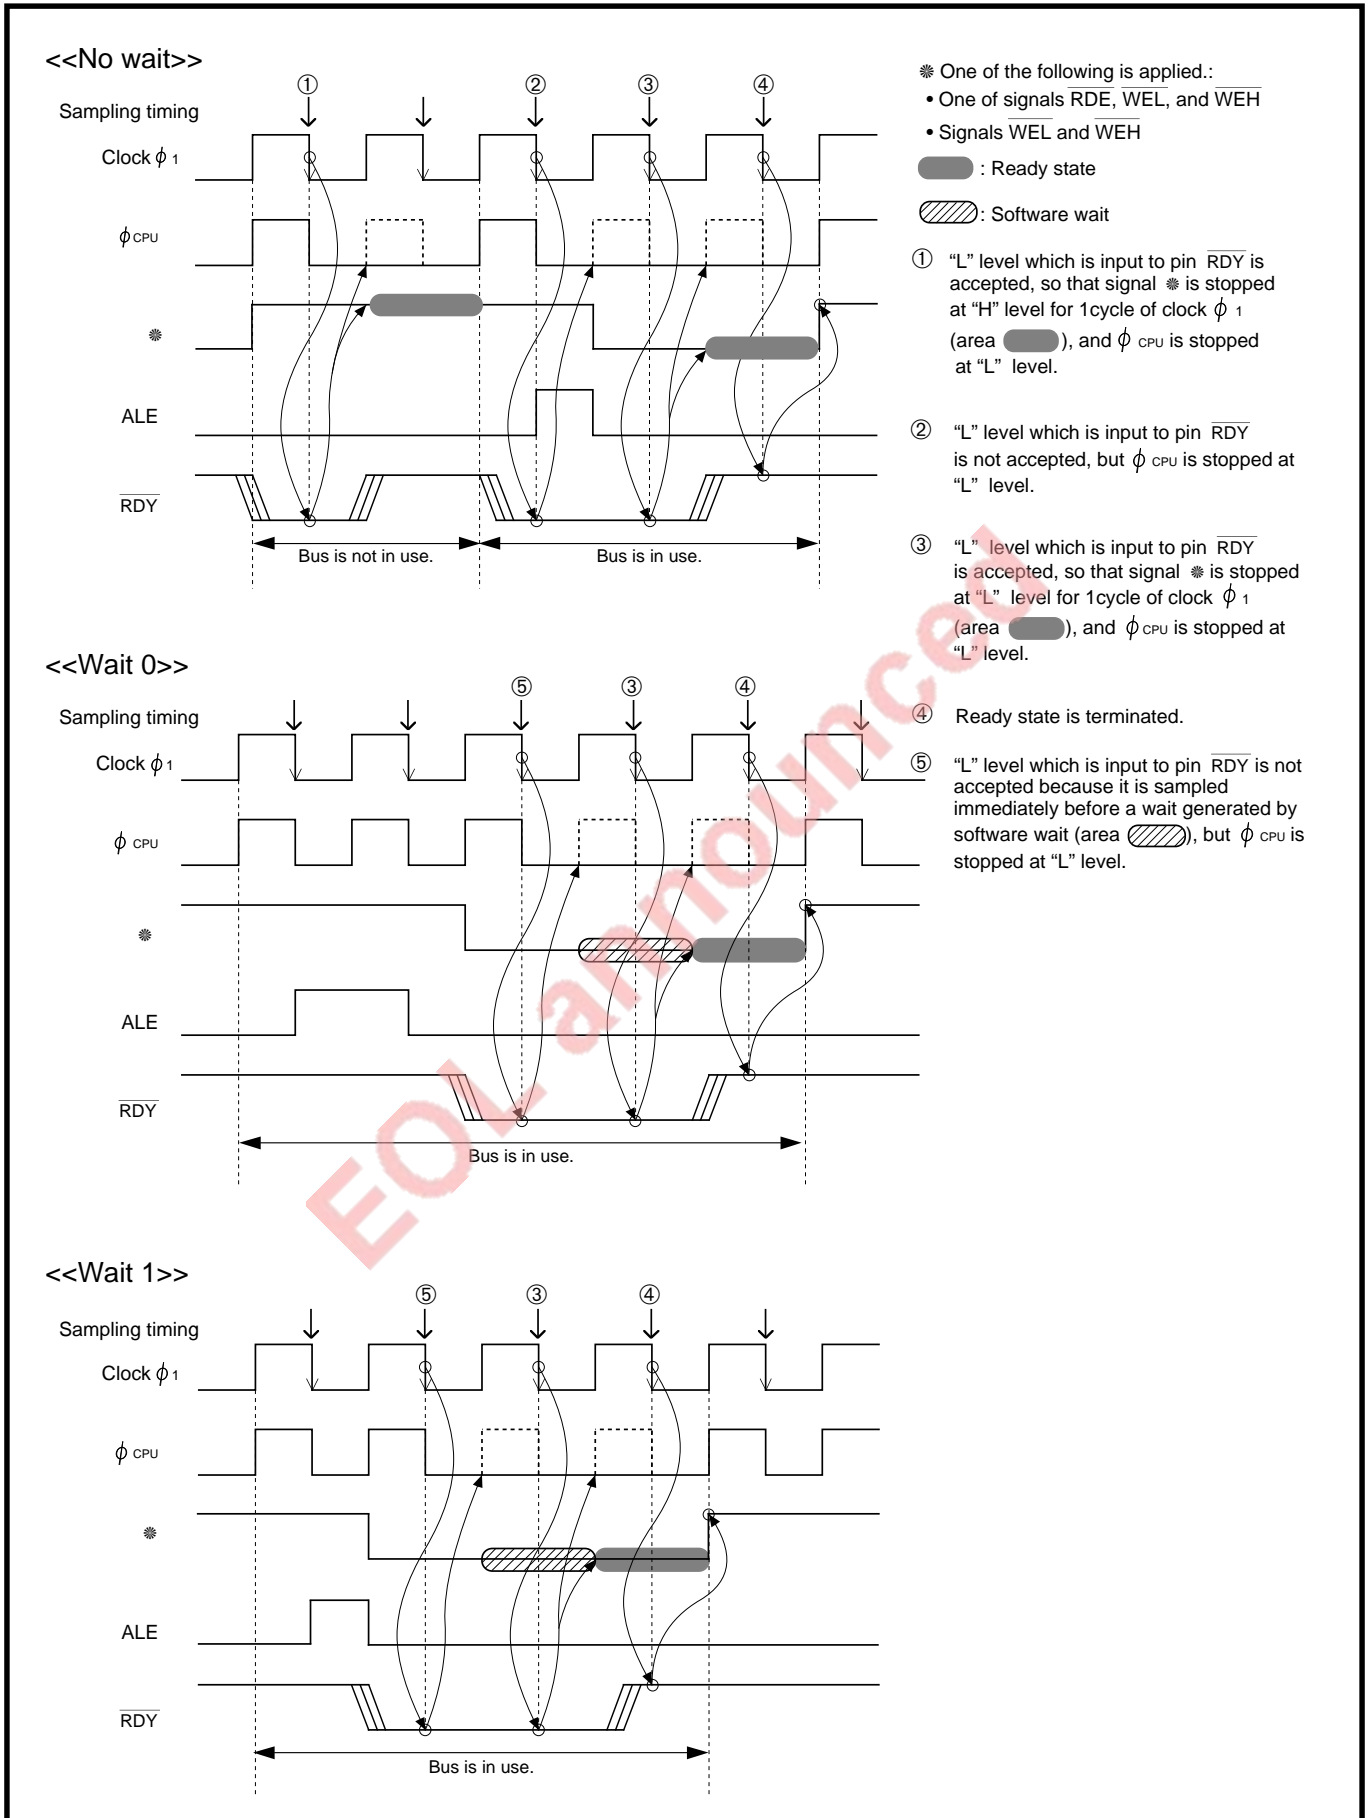

Fig. 12.3.2 Timings when ready state is accepted and terminated (when not using signal \overline{RSMP})
- When the levels of signals $\overline{\text{RDE}}$, $\overline{\text{WEL}}$, and $\overline{\text{WEH}}$ are “H” while the bus is in use (Refer to ② in **Figure 12.3.2.**)
- Immediately before a wait generated by the software wait (Refer to ⑤ in **Figure 12.3.2.**)
When “L” level is input to pin \overline{RDY} , this signal is accepted at the falling edge of clock ϕ_1 and the microcomputer enters the ready state. The ready state can be terminated by setting pin \overline{RDY} 's level to “H” again. When “H” level is input to pin \overline{RDY} , this signal is also accepted at the falling edge of clock ϕ_1 and the ready state is terminated. Figure 12.3.2 shows timings when the ready state is accepted and terminated.